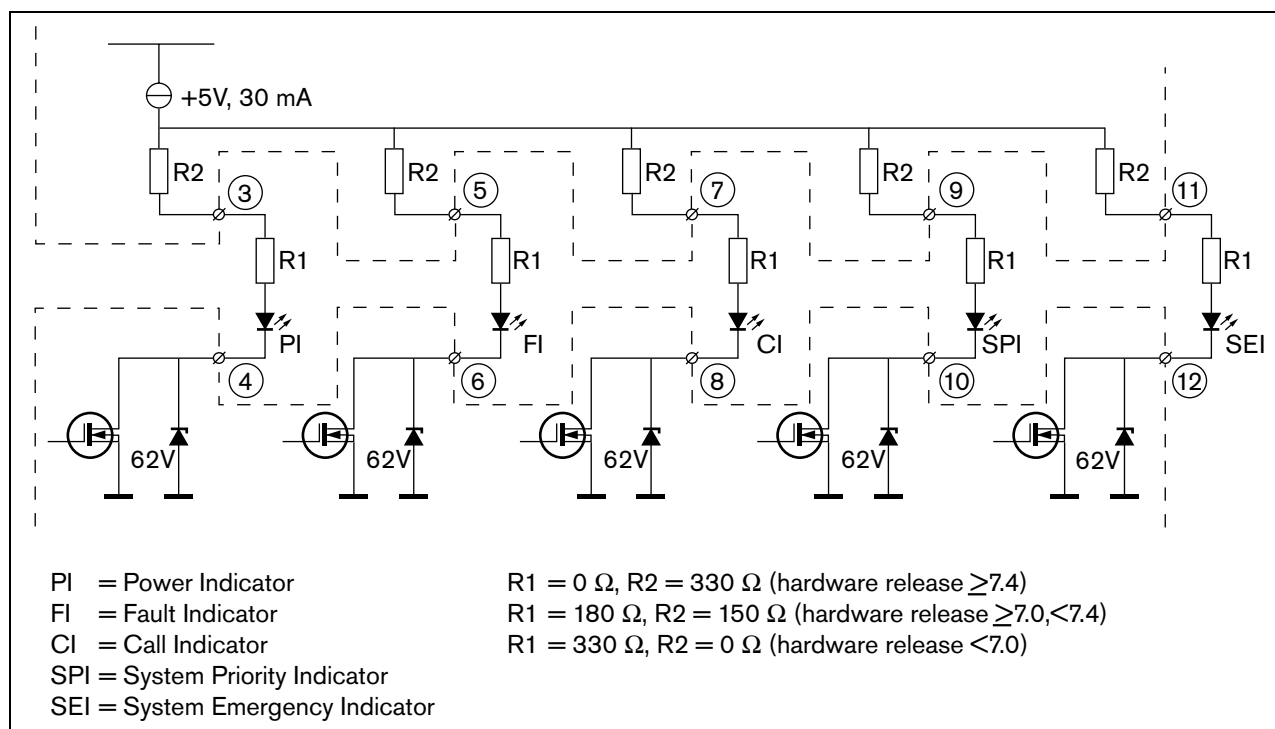

figure 15.7: Internally powered LED
- Internally powered lamp or LED. See figure 15.7 for a connection diagram.